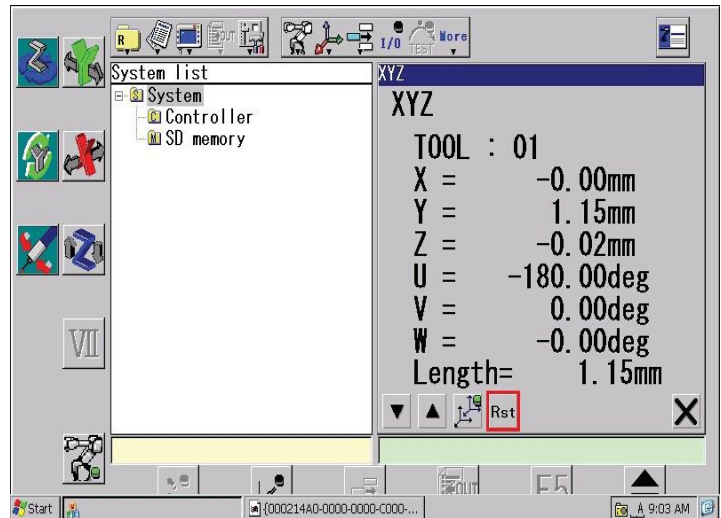

Figure 10
- Note the number in the “Y” dimension (Figure 10). Divide the Y dimension by two and enter that number in the L2 field of the Standard Tool.